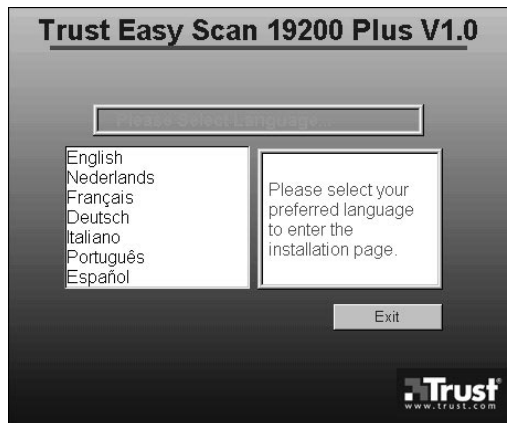
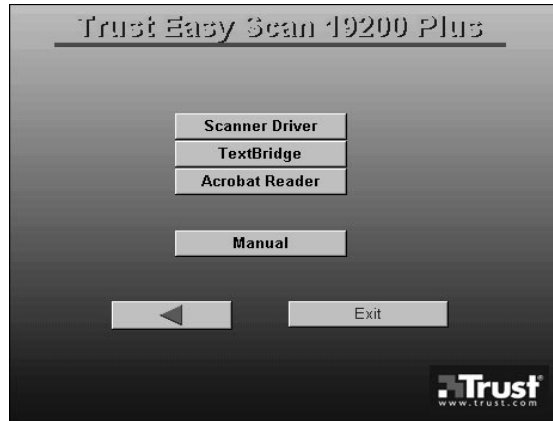

Figure 5: Language selection
Figure 6: Installation menu
5. Using the mouse, select your preferred language for the installation (English, French, German, Italian, Spanish, Portuguese, or Dutch, see Figure 5). After you have selected the preferred language, a screen like the one shown in Figure 6 is displayed.
After the driver installation, the installation menu will remain visible (Figure 6). If this is not the case, repeat steps 1 to 5 from section 4.1. Proceed as follows to install TextBridge.
1. In the installation menu (Figure 6), click on 'TextBridge'. A screen as in Figure 8 is displayed.